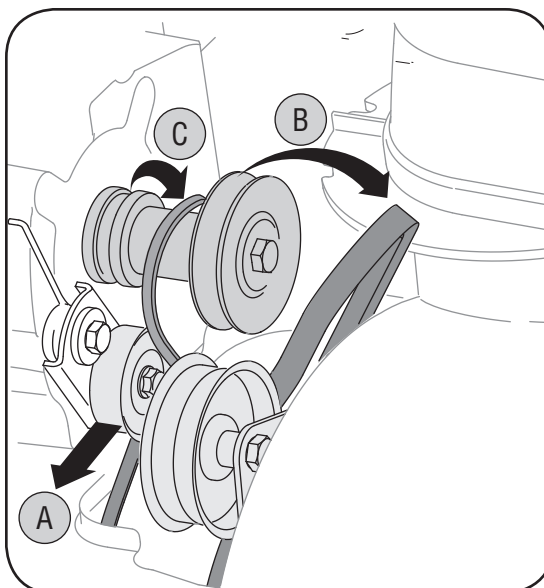

Figure 25
- Grasp the idler pulley and pivot it toward the right. See Figure 25. Insert a screw driver through aligning holes in both the idler bracket and the engine. This will release tension on drive belt.
- Lift the drive belt off engine pulley. See Figure 25.